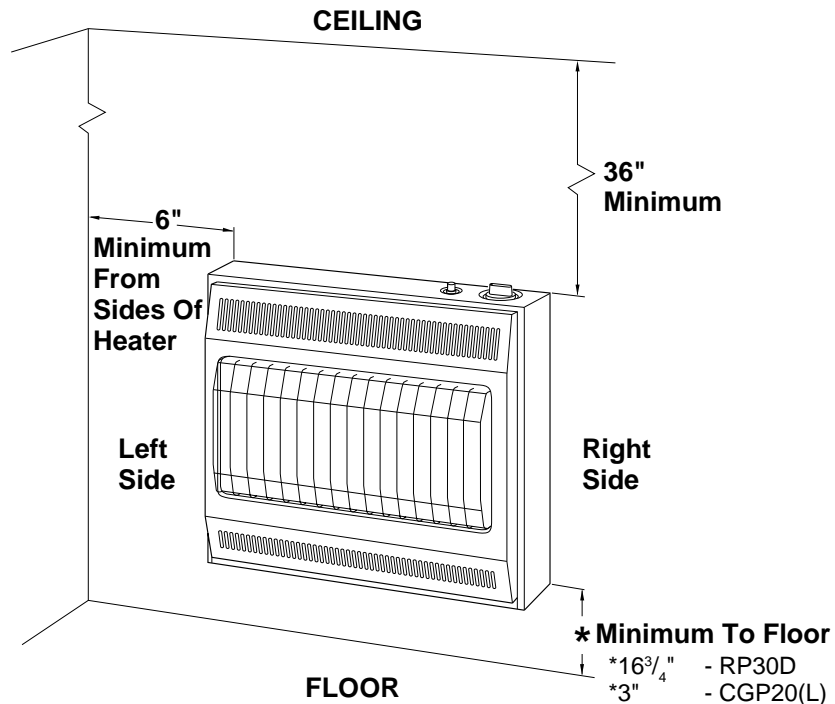

Figure 4 - Mounting Clearances As Viewed From Front of Heater
**WARNING: Maintain the minimum clearances shown in Figure 4. If you can, provide greater clearances from floor, ceiling, and joining wall.**